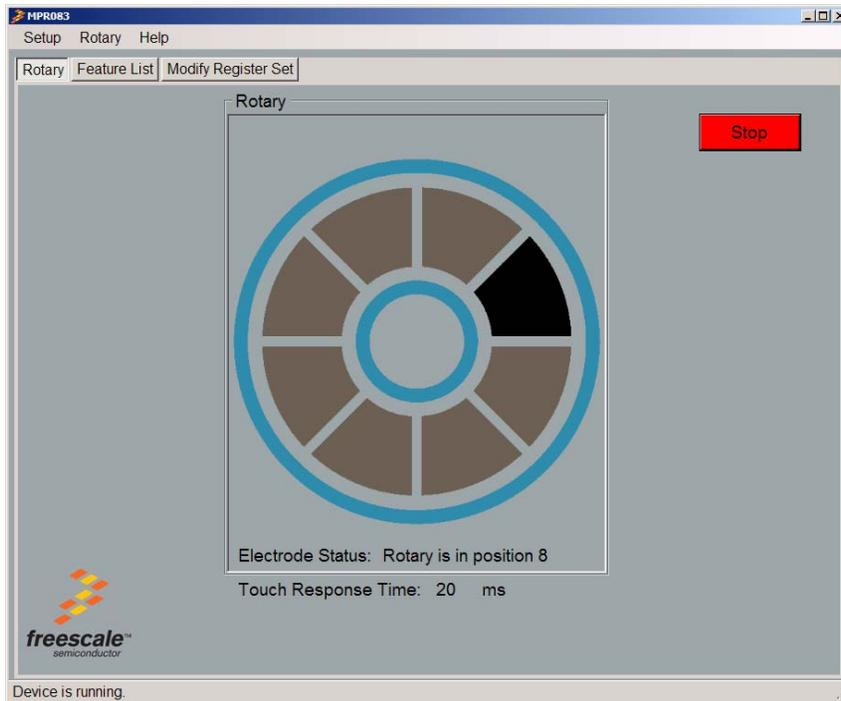

Figure 16. Pad being pressed in Main Rotary Window
- 2) Touch one of the rotary pads on the board. Verify that the rotary pad being touched on the GUI is black and the LED is on, on the Freescale logo (Figure 16). The user can repeat this step touching all 8 pads on the rotary. As the pads are being touched, the corresponding pad on the GUI will change to black and the LED on the board will light up.